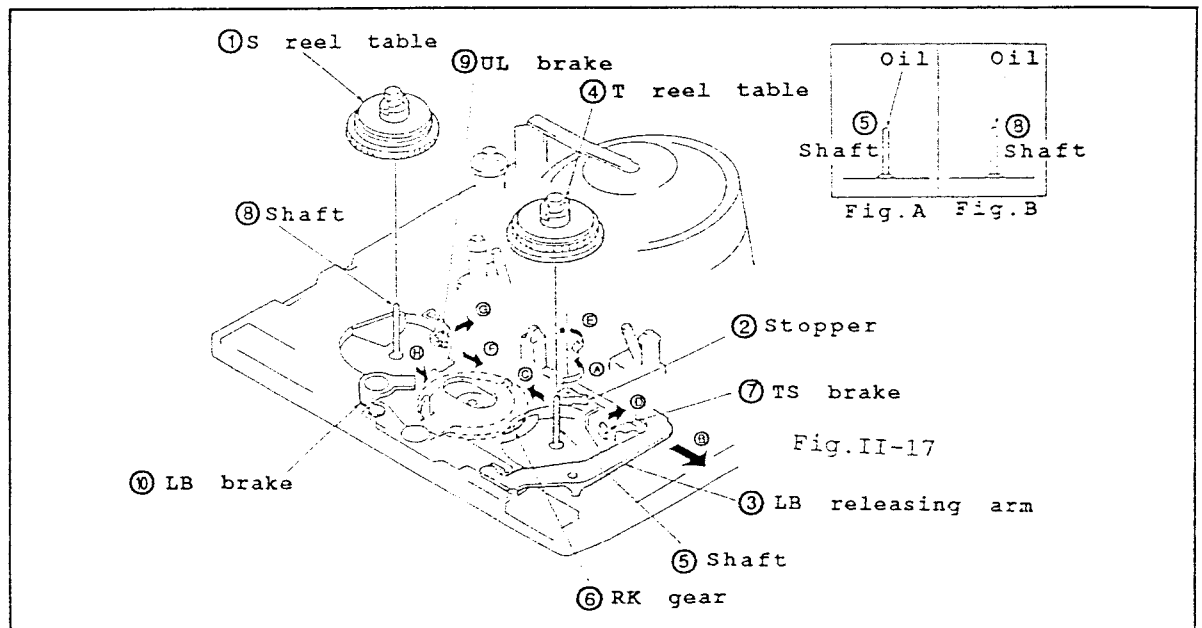

Fig.II-17
• Disassembling (Fig.II-17)
- (1) In the same procedures in "3-4", dismount the S and T brake.
- (2) In the same procedures in "3-5", detach the TL plate.
- (3) In the same procedures in "3-11", take off the tension regulator band.
- (4) Dismount the S reel table ①.
- (5) Turn the stopper ② in the direction of ① by 90° approximately.
- (6) While shifting the LB releasing arm ③ in the direction of ④, dismount the T reel table.
• Reassembling (Fig.II-17)
- (1) Apply the 1/2 drop of oil to the shaft ⑤. (Fig.A)
- (2) Rotate RK gear ⑥ to the direction of ③.